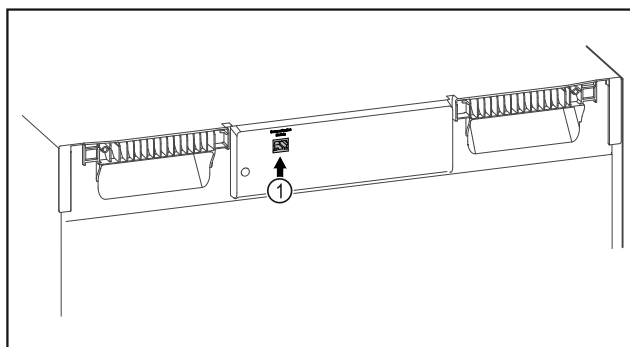

Fig. 136
- SmartModule *Fig. 136 (1)* is in use.